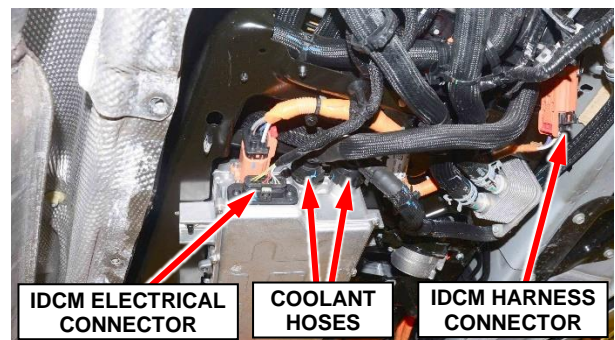

Figure 44 – IDCM Coolant Hoses and Electrical Connector
- 66. Place a suitable coolant recovery container under the coolant inlet and outlet coolant hoses then disconnect the quick-connect fittings from the IDCM (Figure 44).
- 68. Disconnect the IDCM electrical connector and the wire harness connector (Figure 44).